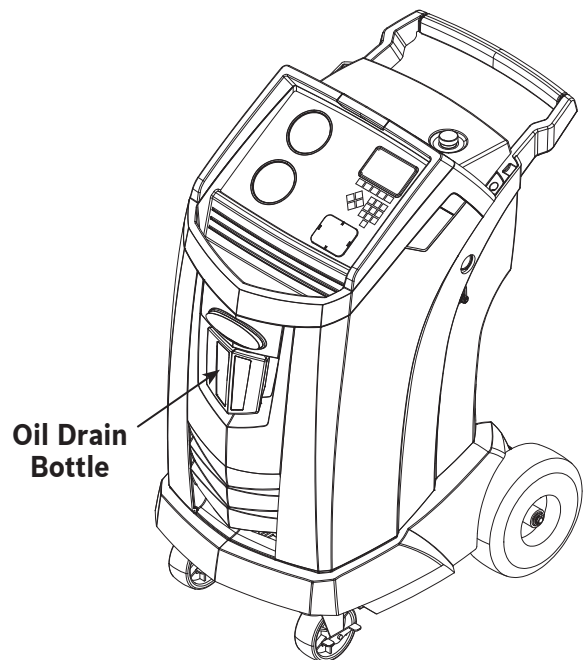

Figure 2
1. Empty the oil drain bottle before starting a recovery. Remove the oil drain bottle from the machine by pulling the bottle straight down – do not use a twisting or rocking motion. Refer to Figure 2.